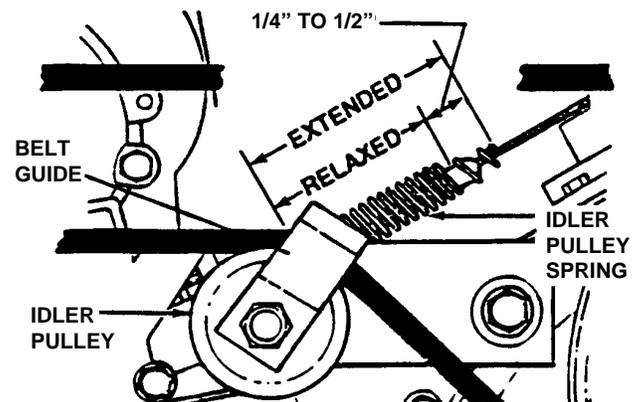
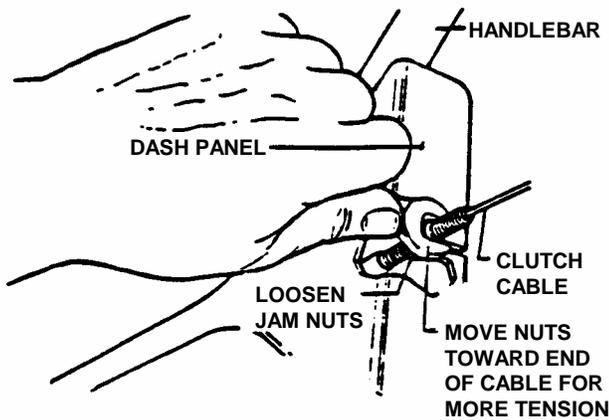

FIGURE 12
FIGURE 13
**BELT TENSION ADJUSTMENT:** Remove the cotter pin that secures clevis pin to left wheel hub. Remove clevis pin from left wheel hub and slide wheel out on axle about 1". Remove belt guard. Measure the length idler pulley spring at the end of the control cable in a relaxed position. Then move wheel and tine control bail up to the handle bar and measure the extended length of the spring. When properly adjusted, the spring will extend 1/4" to 1/2". See Figure 12. To adjust, loosen and reposition the two jam nuts on the threaded end of cable located on the dash panel. Move jam nuts toward the end of threaded end of cable for more tension. Move jam nuts in a direction away from the end of threaded end of cable for less tension. See Figure 13. After adjustment, retighten both jam nuts against dash panel. Reinstall belt guard. Slide wheel back into operating position and reinstall clevis pin and secure with hair pin.